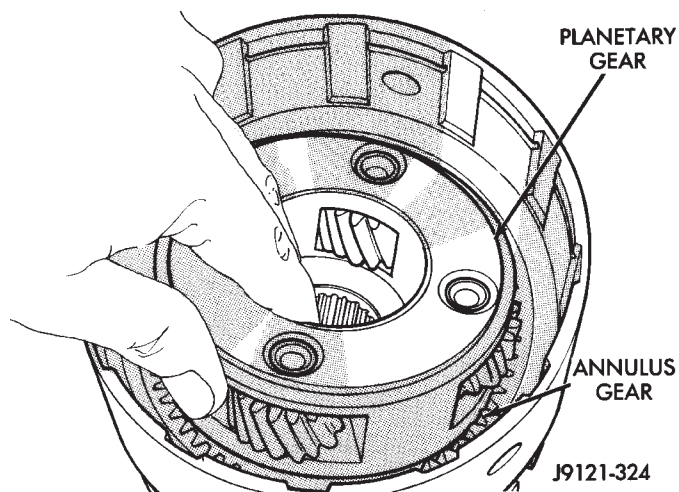

Fig. 284 Planetary Gear Installation
(11) Install planetary gear in annulus gear (Fig. 284). **Be sure planetary pinions are fully seated in annulus gear before proceeding.**